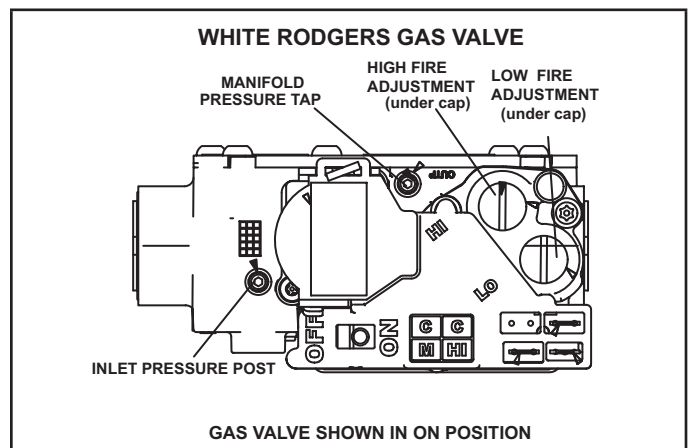

FIGURE 61
Gas Valve Operation (“FIGURE 61”)
- 6 - Move gas valve switch to OFF. See “FIGURE 61”.
- 8 - Move gas valve switch to ON. See “FIGURE 61”.
An inlet pressure post located on the gas valve provides access to the supply pressure. See "FIGURE 61". Back out the 3/32 hex screw one turn, connect a piece of 5/16 tubing and connect to a manometer to measure supply pressure. See "TABLE 18" for supply line pressure.
A manifold pressure post located on the gas valve provides access to the manifold pressure. See "FIGURE 61". Back out the 3/32 hex screw one turn, connect a piece of 5/16 tubing and connect to a manometer to measure manifold pressure.
- 5 - If necessary, make adjustments. "FIGURE 61" shows location of high fire and low fire adjustment screws.